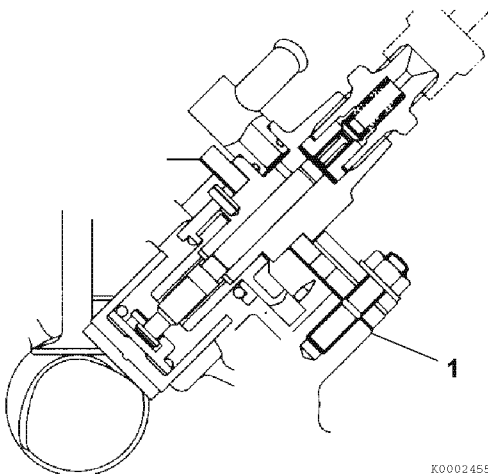

Figure 7-14
7. Install the calculated shim(s) (1, **Figure 7-14**) over the injection pump mounting studs and onto the crankcase mounting surface.